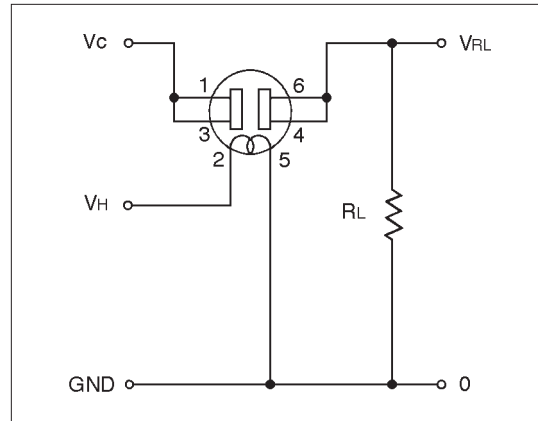
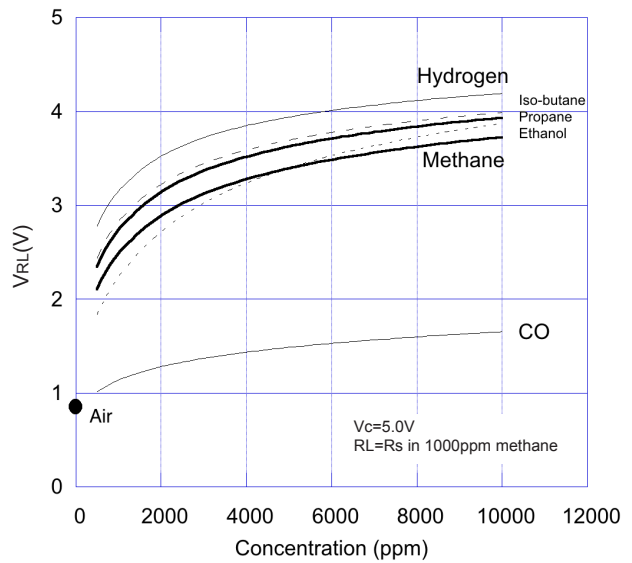

Fig. 2 - Basic measuring circuit
Fig. 5 - Sensitivity to various gases ( $V_{RL}$ )
Figure 2 shows the basic measuring circuit for use with TGS813. Circuit voltage (Vc) is applied across the sensor element which has a resistance between the sensor's two electrodes and the load resistor (RL) connected in series. The sensor signal (VRL) is measured indirectly as a change in voltage across the RL. The Rs is obtained from the formula shown at the right.
Using the basic measuring circuit illustrated in Figure 2, these sensitivity characteristics provide the sensor output voltage ( $V_{RL}$ ) change as shown in Figure 5.